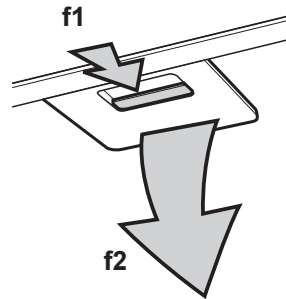

Fig. 4
- First, push the metal grease filter stop (f1) backwards, then extract the filter (f2), pulling downwards. Fig. 4.